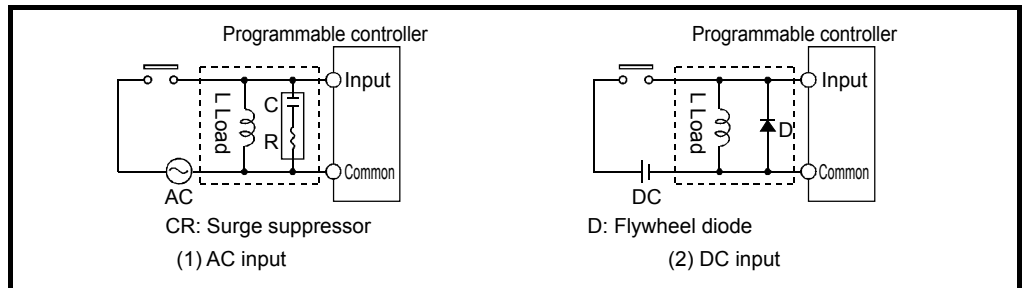
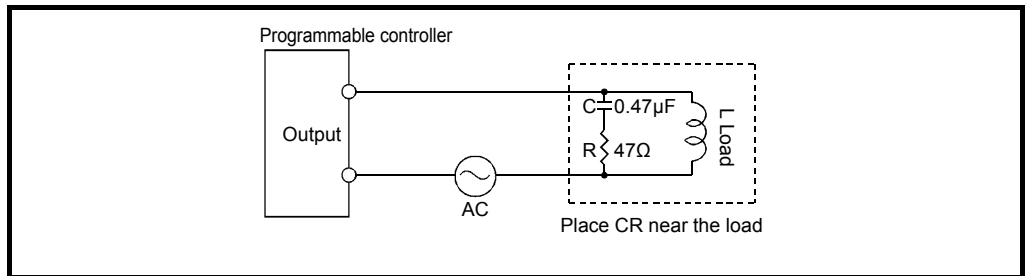
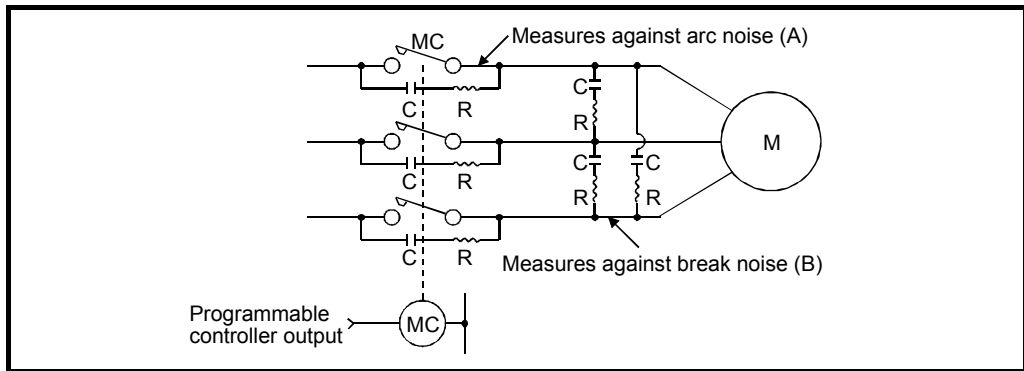

Figure 9-3 When There Is an Inductive Load in Parallel with Input
Figure 9-5 Measures against Noise in Alternate Current Inductive Load
Figure 9-8 Measures against Noise in a High Capacity Load
- (4) For an alternating current inductive load where a large amount of noise is generated during shutdown, effective will be the opening and closing of it at a triac that will be shut down by the load current.
- (5) For arc noise when opening and closing the contact of an electromagnetic contactor, it would be effective to connect a CR surge suppressor across the contact. Note that, even when the contact is opened, the CR surge suppressor circuit causes a leakage current (part (A) in Figure 9-8).
- (6) When the shutdown noise of a motor or transformer matters, connect a CR surge suppressor between phases (part (B) in Figure 9-8).
(1) When noise is generated in sync with the behavior of a specific output equipment	<p>1) Noise or surge from output equipment are considered as the major cause. When the instrument is turned ON and OFF, this trouble always or sometimes occurs and the programmable controller stops. In such cases, measures in Figure 9-5 and 9-6 are usually effective as measures against noise. A surge suppressor and diode are not effective unless they are connected most close to the load. Note that, for a high capacity load, take measures described in Figure 9-8.</p> <p>2) Possible troubles occurring in sync with the behavior of the instrument include bad connection such as disconnection and slackness of an input cable and bad electrical contact of input equipment. Conduct an inspection thoroughly.</p>
(2) When noise is generated in sync with the behavior of an instrument irrelevant for the programmable controller	<p>1) Such noise is caused by noise or surge from another instrument. Thus, conduct the same measures as for item "(1)" above.</p> <p>2) Try out measures such as grounding when using the instrument without grounding it and changing to non-grounding when using it by grounding it, set an I/O signal wire apart from the cable laying of the corresponding equipment, or consider the route.</p>
(3) When noise occurs in applying a high capacity load	<p>1) Possible causes include the reduction of the power supply voltage and the rise of the ground potential of shared grounding. If the power supply voltage is reduced to lower than the prescribed value when the load is applied, add a constant-voltage transformer in the power supply and change the power supply systems.</p> <p>2) When grounding has been done, ungrounding may be an alternative measure.</p>
(4) When the behavior of the programmable controller is unstable at random	<p>1) Either in the event of frequent instantaneous power failures of the power supply, when the waveform is significantly poor, or when there are many power supply noises, it would be effective to add a constant-voltage or only an isolation transformer.</p> <p>2) When there is impact of a high frequency equipment, ensure to ground the high frequency equipment and the programmable controller storage panel and shield the I/O signal wire of the programmable controller.</p>
(5) When the induced voltage of an input is high	<p>1) The programmable controller will not stop, resulting in false input causing faulty output. Even if the induced voltage is low, it is overlapped with noise, and results to false input. In that case, take the measures described in Figure 9-3.</p>
(6) Others	<p>1) Noise from the ignition system of a forklift: Occurs when a car passes by.</p> <p>2) Noise affected by radio wave: Occurs when a door of the control panel is opened.</p> <p>3) Noise generated by radio wave: Occurs when a transceiver or cellular phone are used.</p>